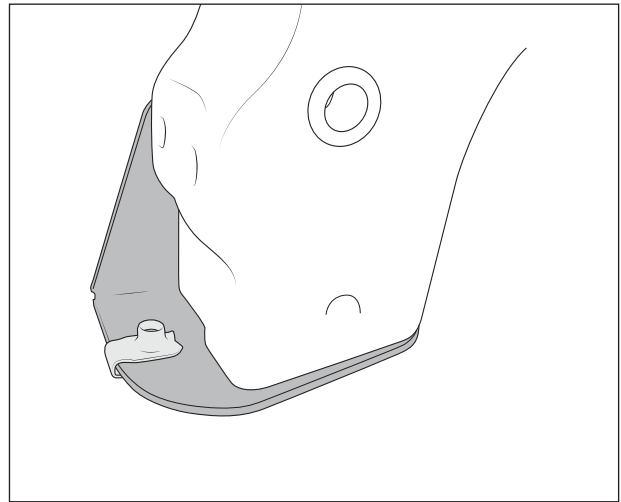

Figure 31
- Install two provided M8 U-nuts to the bottom flange of the skidplate support brackets so that smooth surface is on the bottom side. Insert until the threaded hole is centered within the hole in the bracket (fig. 31).